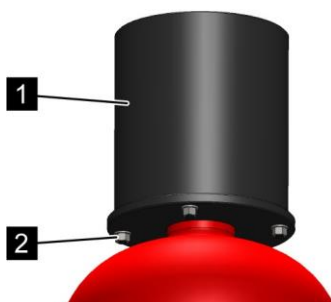

Fig. 139: Install the protective valve cap
6. ➤ Fit the protective valve cap (Fig. 139/1) onto the extinguishing agent container.
7. ➤ Screw the protective valve cap (Fig. 139/1) with the device onto the extinguishing agent container (Fig. 139/2).